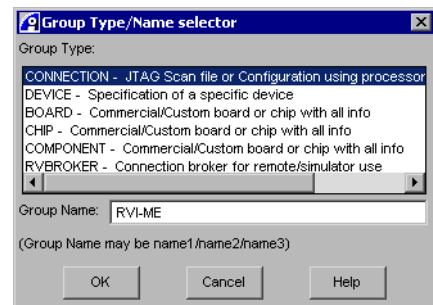

Figure 14-3 Specifying a new CONNECTION group
4. This displays the Group Type/Name selector dialog box, shown in Figure 14-3.